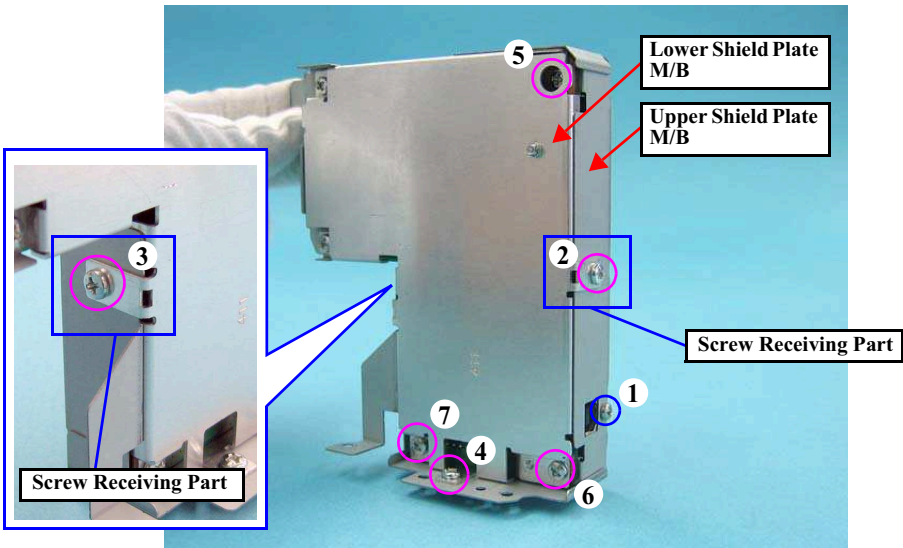
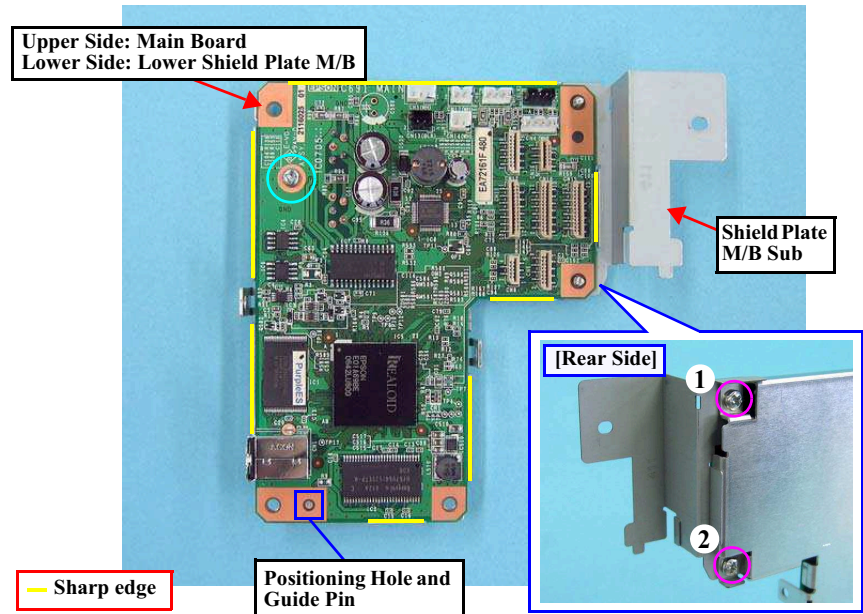

Figure 4-21. Removing the Upper Shield Plate M/B
Figure 4-22. Removing the Main Board
■ When installing the Main Board, match the positioning hole with the guide pin shown in Fig.4-22.
■ Tighten the screws in the order given in Fig.4-21 (p.63), Fig.4-22.